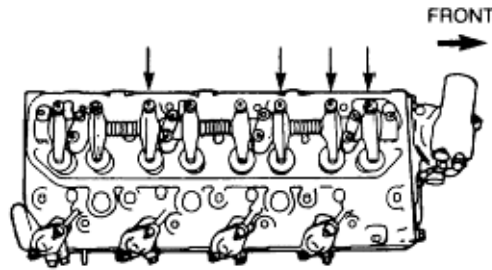

Figure 12 Valve Adjustment First Sequence
- e. Check that the clearance of the valves indicated in Figure 12 is 0.4 mm (0.016 in). Adjust the clearances as necessary.